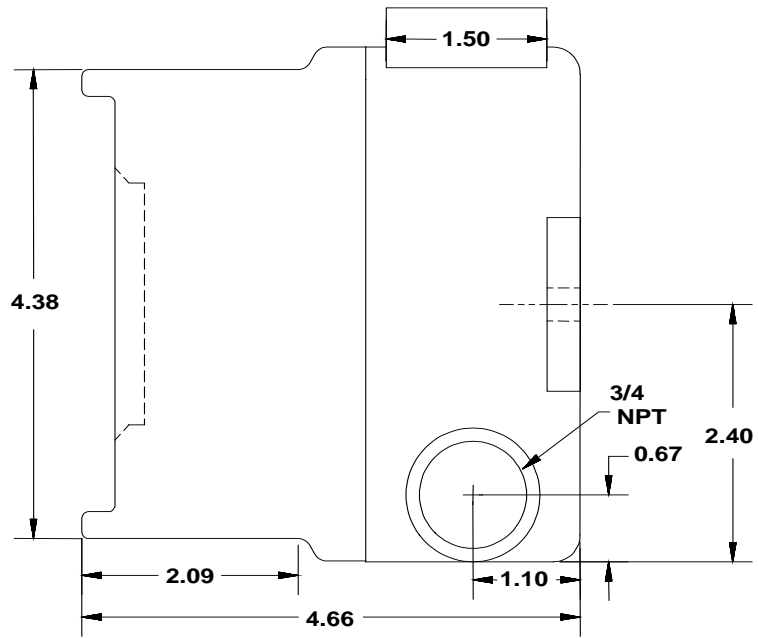

Figure 6: Model SS4-A1-A2 Detector Enclosure - Side View
- a. Insert the cables into the metal enclosure base through one of the conduit openings. Refer to Figure 6.
- a. Insert relay cables into the Detector enclosure base through one of the conduit openings. Refer to Figure 6.